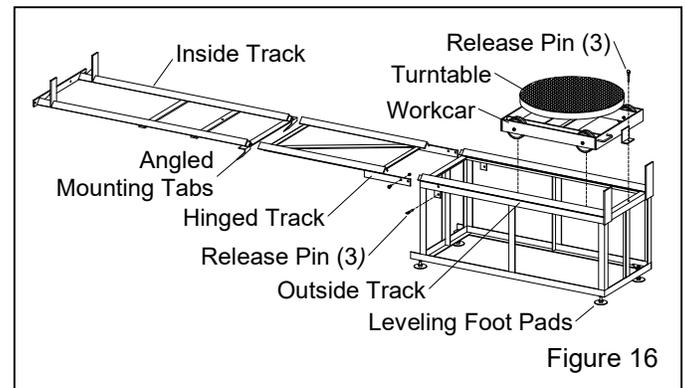

Figure 16
**3.5.1** These instructions cover field installation of the 2000 lb. capacity track and workcar with turntable. If the track was ordered with the cabinet, it is partially assembled at the factory. Disregard the instructions that do not apply. Refer to Figure 16 for arrangement of the major components.